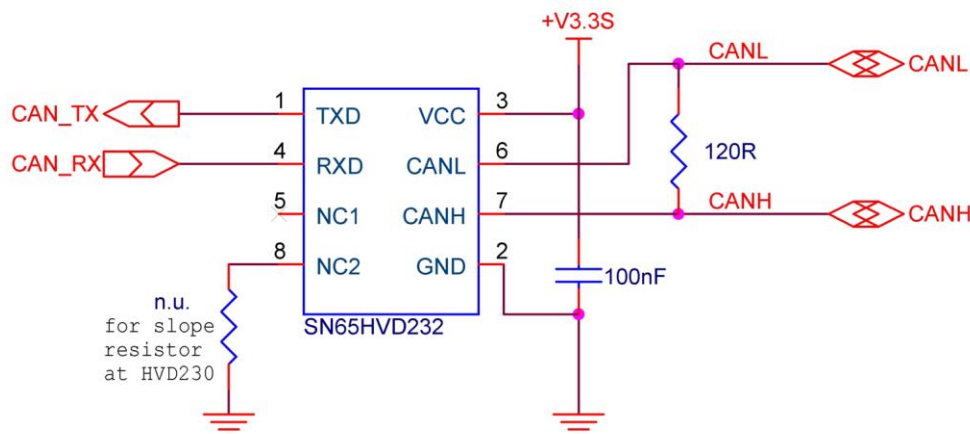

Figure 6: CAN transceiver circuit
- Figure 6: CAN transceiver circuit13